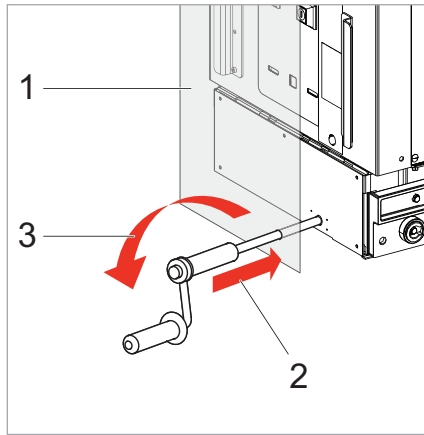
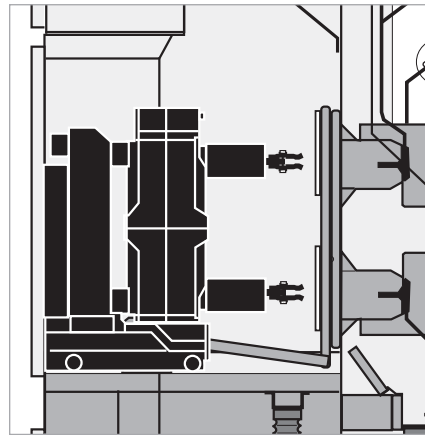

Fig. 35
Fig. 36
1. Open cover in panel (Fig. 35, item 1) and insert crank (2).
2. Turn crank counter-clockwise (3) until the truck has been racked out. Remove crank.
3. Check position of the truck (Fig. 36) through the inspection port.